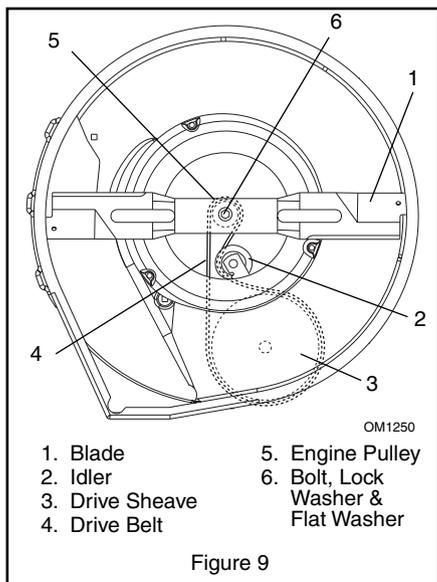

Figure 9
3. Remove belt from the idler, then the drive sheave, and finally, the engine pulley (Figure 9).